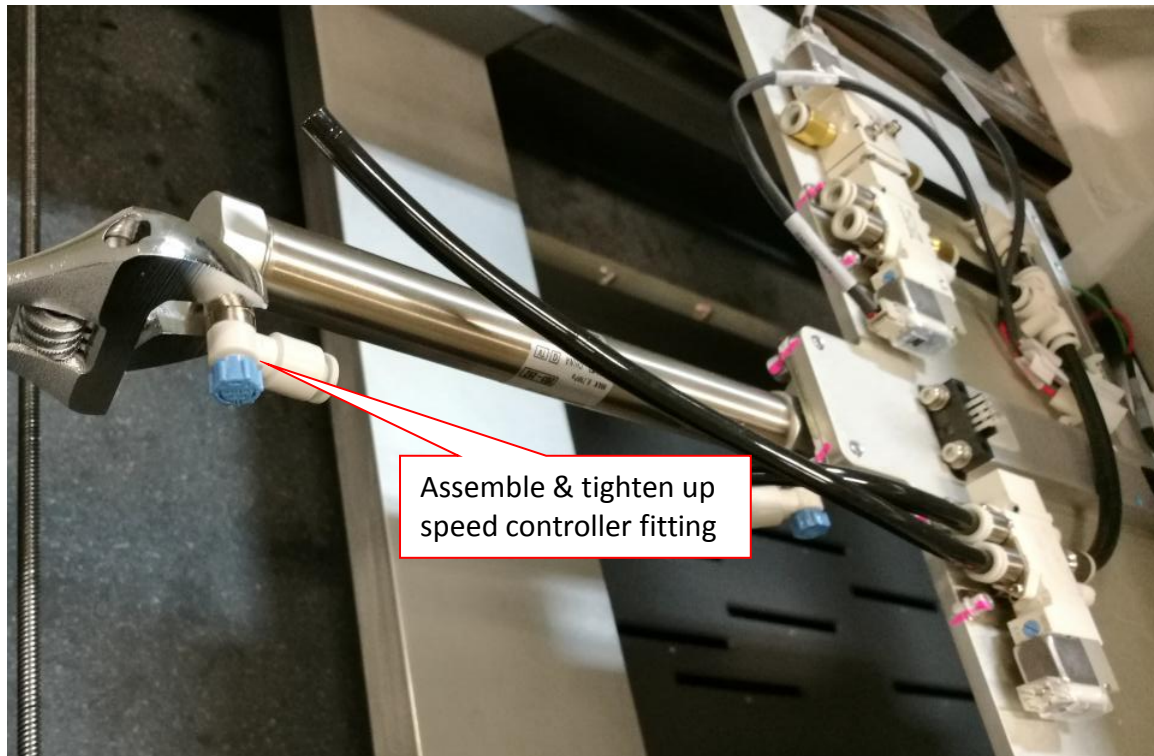

Figure 3 Speed controller fitting assembly
6. Assemble & Tighten up Speed Controller Fitting as shown in Figure 3